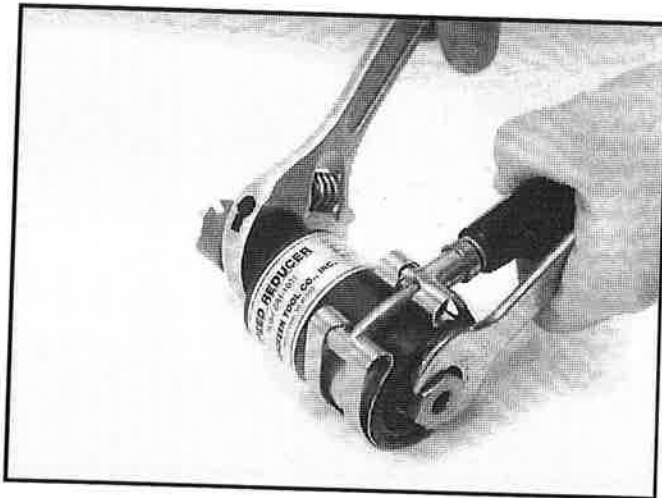

Fig. 11
3. Remove output adapter - the input shaft and ring gear must both be held stationary to remove the output adapter. This is done by gripping with one hand both the clamping handle and a wrench on the input shaft while turning the output adapter with a wrench in the other hand (**Figure 11**).